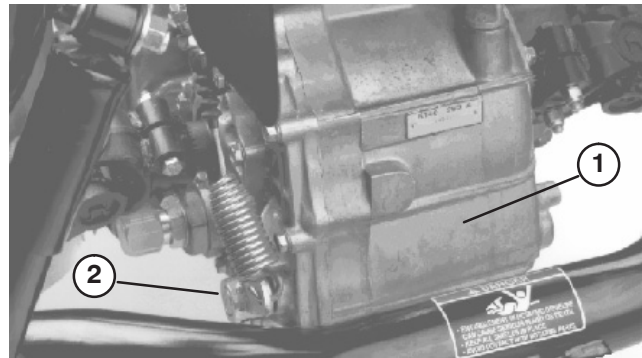

Figure 40
2. Remove drain plug (Fig. 40) from side of reservoir and let hydraulic fluid flow into drain pan.